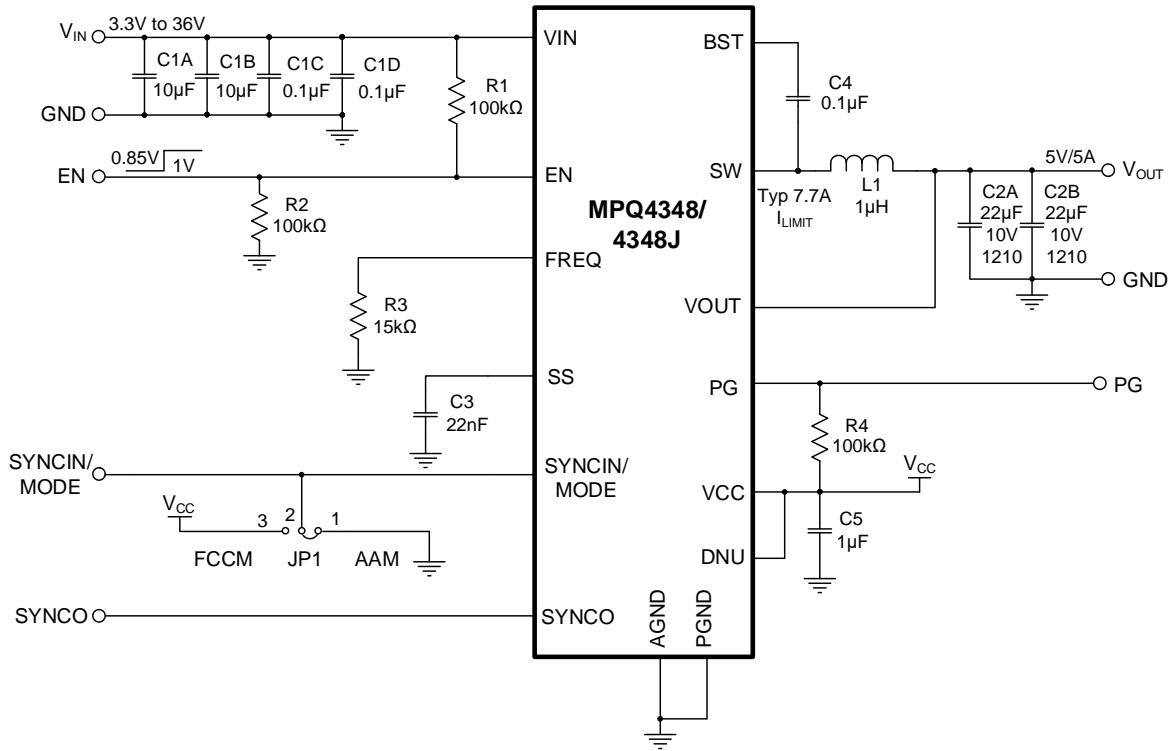

Figure 9: Typical Application Circuit (V_{OUT} = 5V, f_{sw} = 2.2MHz)
12) The recommended PCB layout is based on Figure 9 on page 41.